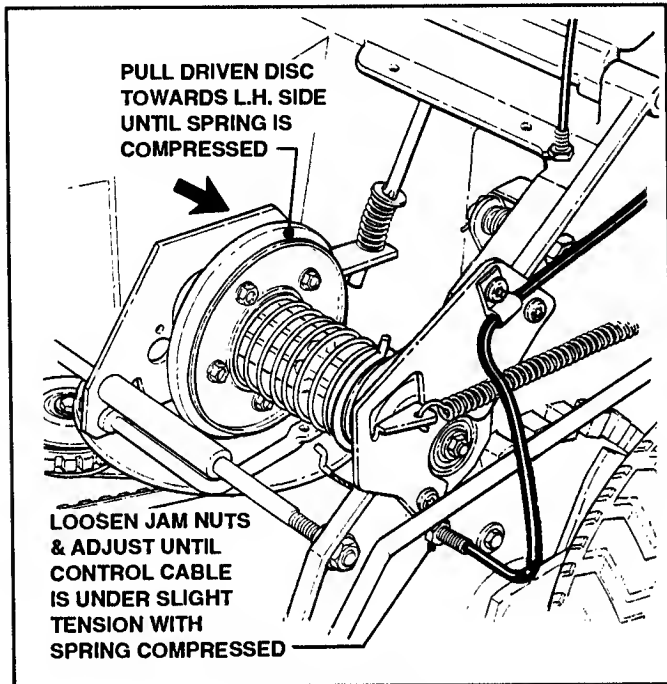

FIGURE 3.12
- Manually pull the driven disc towards the left side of the mower until the spring is fully compressed (Refer to Figure 3.12).
1. Loosen the appropriate jam nut and, while the spring is still compressed, adjust the Ground Speed Control Cable until the Cable is under slight tension. See Figure 3.12.